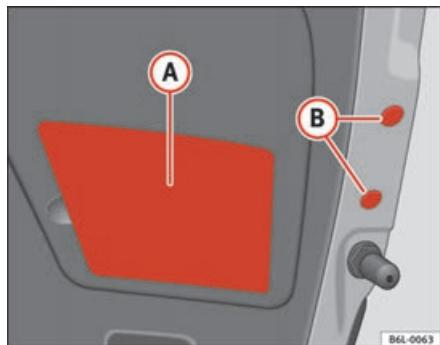

Fig. 164 Rear light on tailgate
- Fit the caps **B** and the plastic cover **A** ⇒ fig. 164.